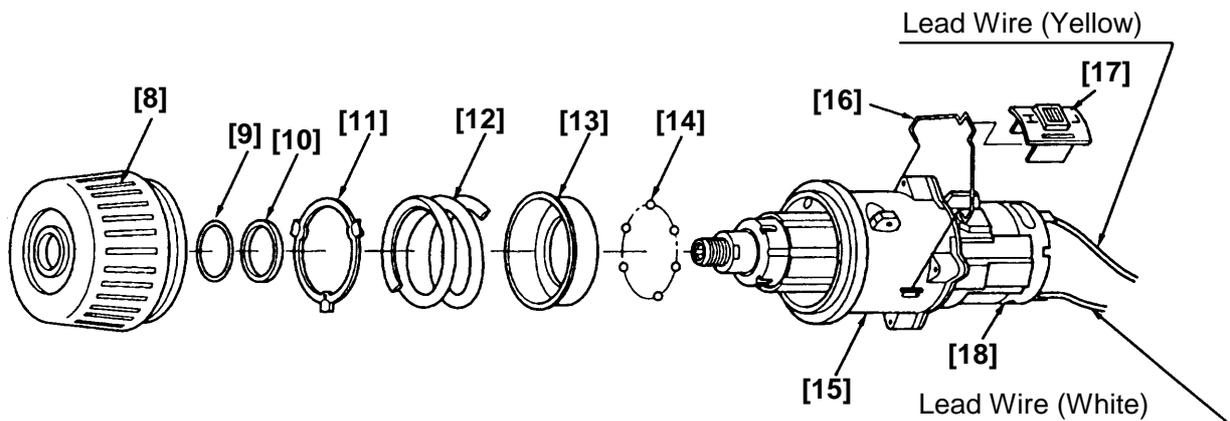

Fig. 11
(a) In order, remove the Cap [8], O-Ring [9], O-ring Plate [10], Clutch Plate [11], Spring [12], Spring Holder [13] and Steel Balls [14]. Exercise care not to lose the six Steel Balls [14]. (See Fig.11.)
- (a) Mount the Shift Arm [16] and Shift Knob [17] on to the assembled parts. (See Fig.11.)
- (b) Fit the O-Ring [9] and O-Ring Plate [10] into the parts ass'y and install the Cap [8] through the six Steel Balls [14]. (See Fig.11.)
When installing the Cap [8], make sure that the numeral "1" on the Cap [8] and one of the projections at Clutch Plate [11] are generally aligned with the yellow internal wire soldered to the Motor [18]. Then fit the projection at Cap [8] into the recess on Spindle Gear Ass'y [15]. (See Figs.11. and 12.)